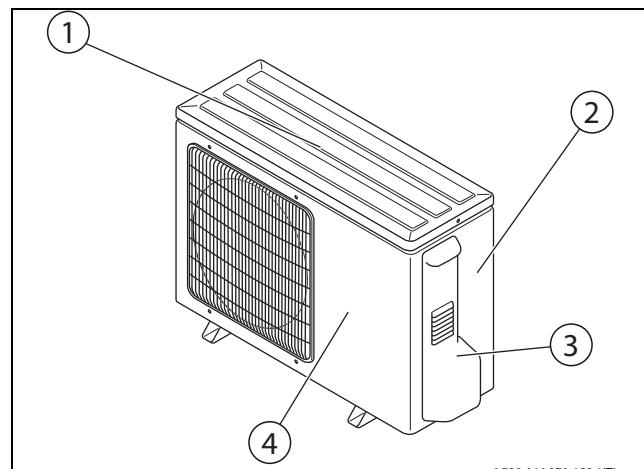

Fig. 73 Removing casing from the external unit
- Remove service cover (→ Fig. 73, page 77).